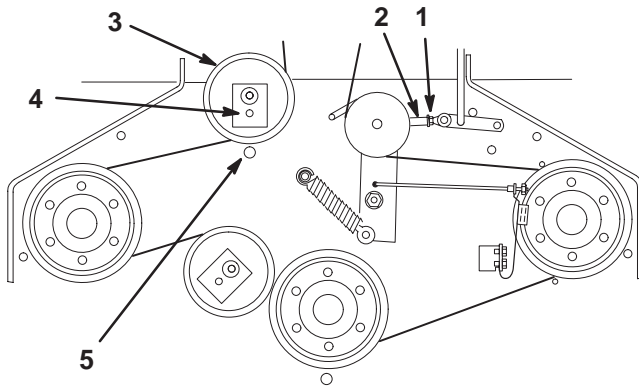

Figure 49
2. Loosen locknut on turnbuckle (Fig. 49).
3. Rotate turnbuckle toward rear of mower to increase tension on belt. Rotate turnbuckle toward front of mower to decrease tension on belt (Fig. 49).
4. If the belt is still loose after making adjustments to the turnbuckle, reposition the rear idler pulley to the front hole. The belt guide next to the pulley must also be moved to the front hole (Fig. 49).